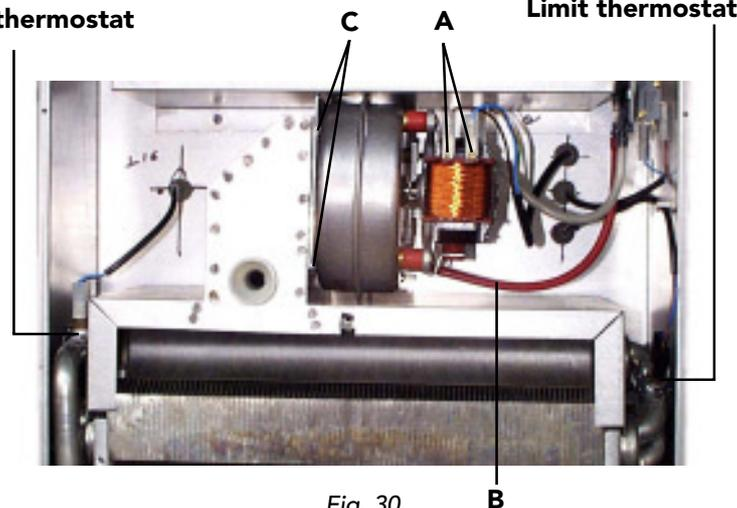

Fig. 30
7.11 Removal of fan (fig. 30)
7.12 Limit thermostat, or overheat cut off thermostat (fig. 30)
- Identify the location of thermostat from fig. 30